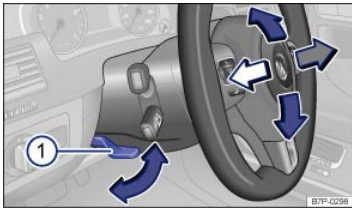

Fig. 44 Manual adjustment for the steering wheel position.
- Push down on the lever ⇒ Fig. 44①.
- Always pull the lever ⇒ Fig. 44① firmly upward after adjusting the steering column so that the steering wheel does not change position suddenly while the vehicle is moving.